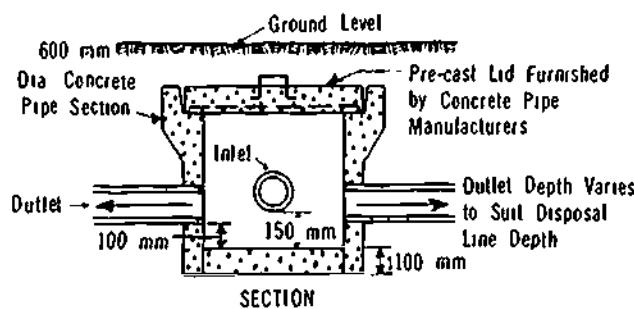

Figure 24-16. Cross-Section of Distribution Box with Three Outlets
d) Figure 24-16 shows a circular distribution box made from a section of 600 mm concrete pipe. This box may be used when only three outlets and one